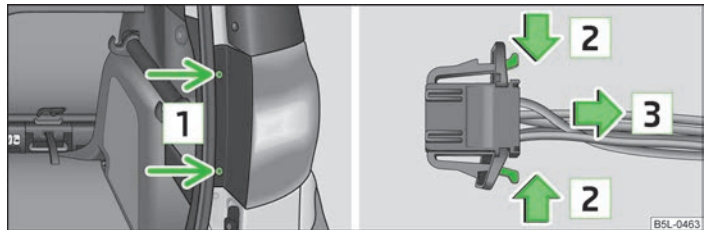

Fig. 171 Removing the tail lamp assembly/disconnecting the plug connection
- › Unscrew the light using the Torx key from the car tool kit. The shorter side of the wrench is used for loosening the screws **1** » Fig. 171 and the longer side for screwing them out completely.
- › Disconnect the plug connection by pressing the catches in direction of arrow **2** » Fig. 171 and by pulling them in direction of arrow **3**.
- › Screw the light with the screws **1** » Fig. 171 into place.